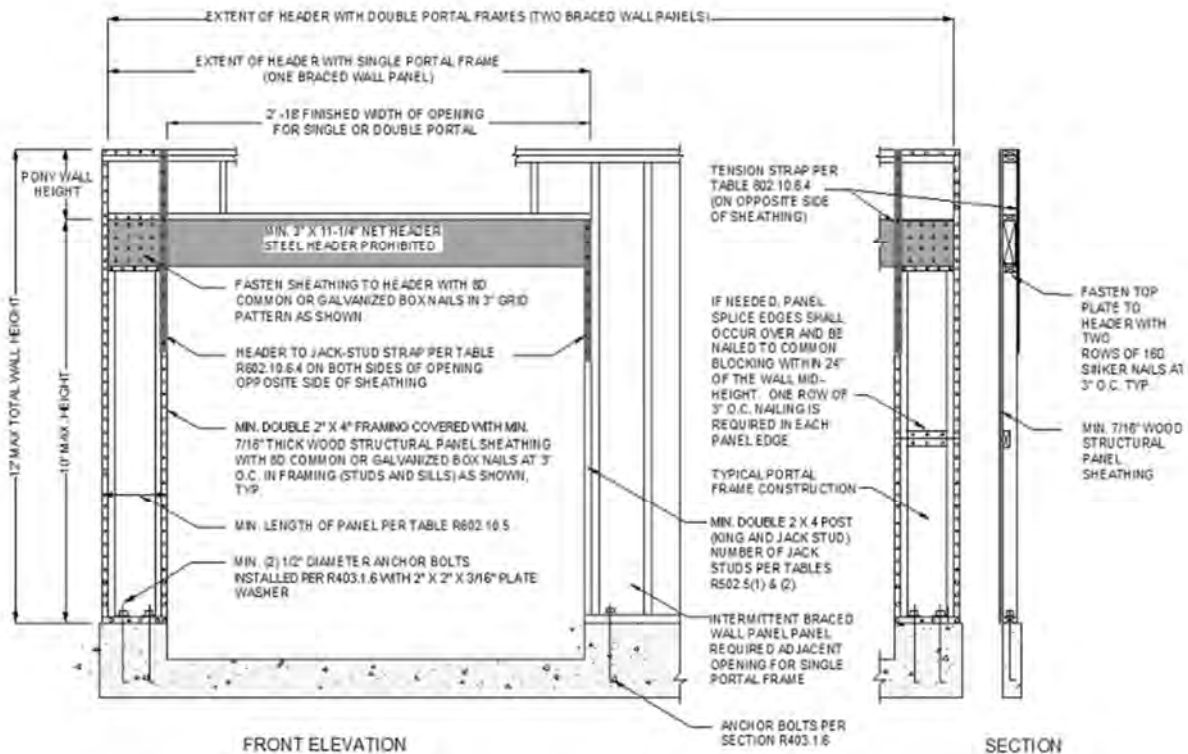

Figure 1 - Garage Portal Frame - R602.10.6.3
- f. Sheathing to be fastened per Figure 1 shown below. Also found in R602.10.6.3